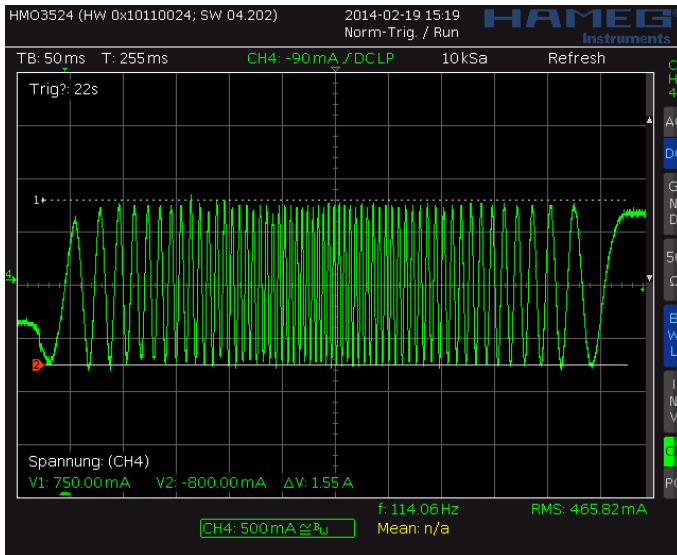
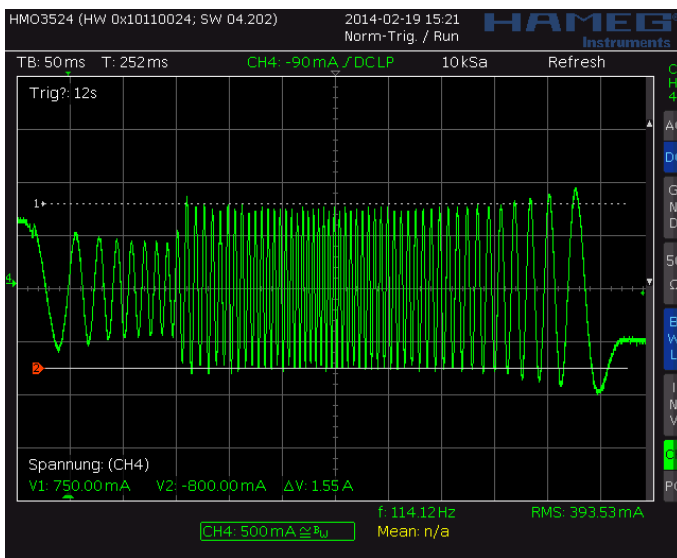
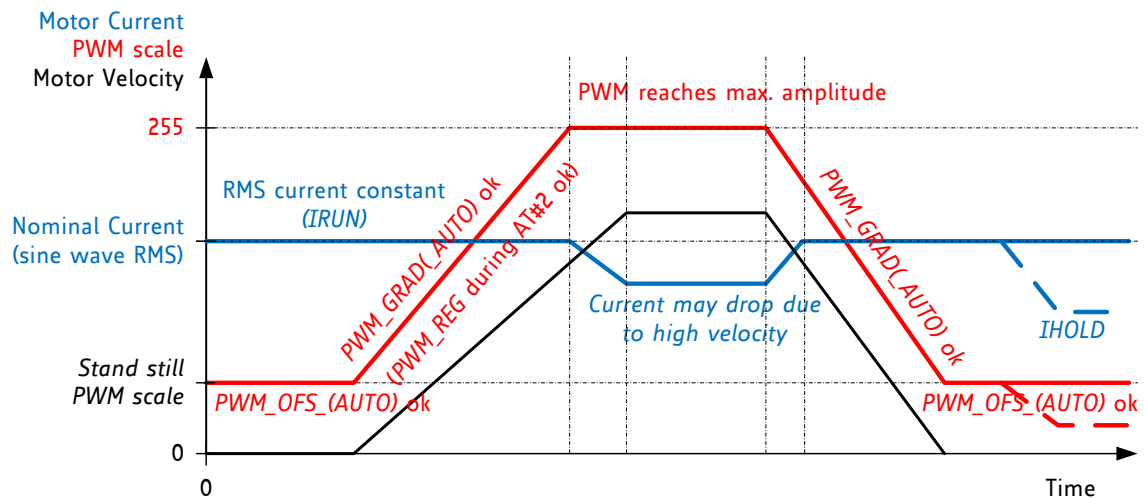

Figure 6.3 Scope shot: good setting for PWM_REG
Figure 6.4 Scope shot: too small setting for PWM_REG during AT#2
Figure 6.5 Successfully determined PWM_GRAD(AUTO) and PWM_OF5(AUTO)
In StealthChop voltage PWM mode, the autoscaling function ($pwm_autoscale = 1$, $pwm_auto_grad = 1$) regulates the motor current to the desired current setting. Automatic scaling is used as part of the automatic tuning process (AT), and for subsequent tracking of changes within the motor parameters. The driver measures the motor current during the chopper on time and uses a proportional regulator to regulate PWM_SCALE_AUTO in order match the motor current to the target current. PWM_REG is the proportionality coefficient for this regulator. Basically, the proportionality coefficient should be as small as possible in order to get a stable and soft regulation behavior, but it must be large enough to allow the driver to quickly react to changes caused by variation of the motor target current (e.g. change of VREF). During initial tuning step AT#2, PWM_REG also compensates for the change of motor velocity. Therefore, a high acceleration during AT#2 will require a higher setting of PWM_REG . With careful selection of homing velocity and acceleration, a minimum setting of the regulation gradient often is sufficient ($PWM_REG=1$). PWM_REG setting should be optimized for the fastest required acceleration and deceleration ramp (compare Figure 6.3 and Figure 6.4). The quality of the setting PWM_REG in phase AT#2 and the finished automatic tuning procedure (or non-automatic settings for PWM_OFS and PWM_GRAD) can be examined when monitoring motor current during an acceleration phase Figure 6.5.